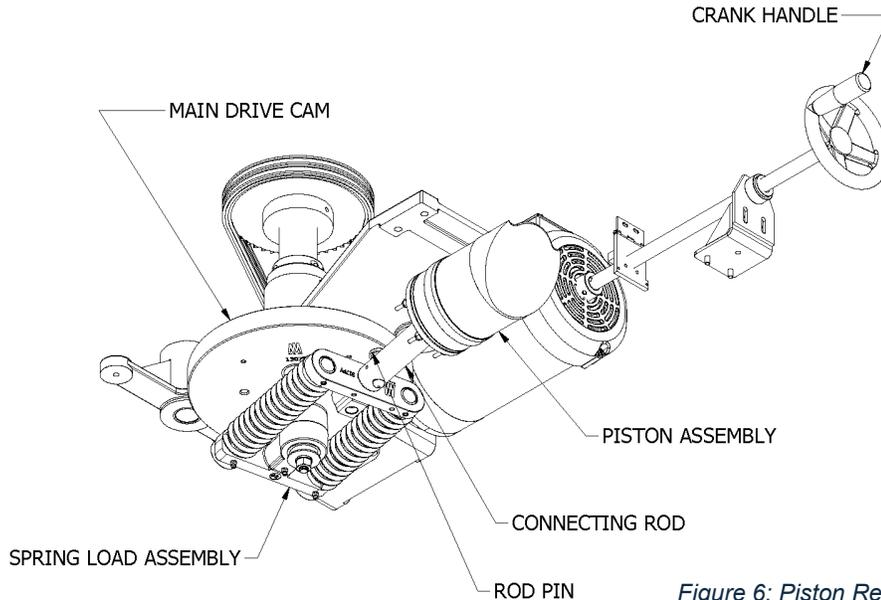

Figure 6: Piston Removal
- **Only rotate the crank handle (Figure 6) counterclockwise.**
1. Start by inserting the crank handle (Figure 6), into the motor crank hole to the right of the hopper.
2. Rotate the motor crank **COUNTERCLOCKWISE ONLY** until Pin B is sitting between the end of the cylinder and outside of the cam, as shown in (Figure 6) below.
- Ensure that any excess dough is removed from face of the cylinder and that the scraper ring and O-ring that were removed in Step 7 (Figure 6 above) have been cleaned.